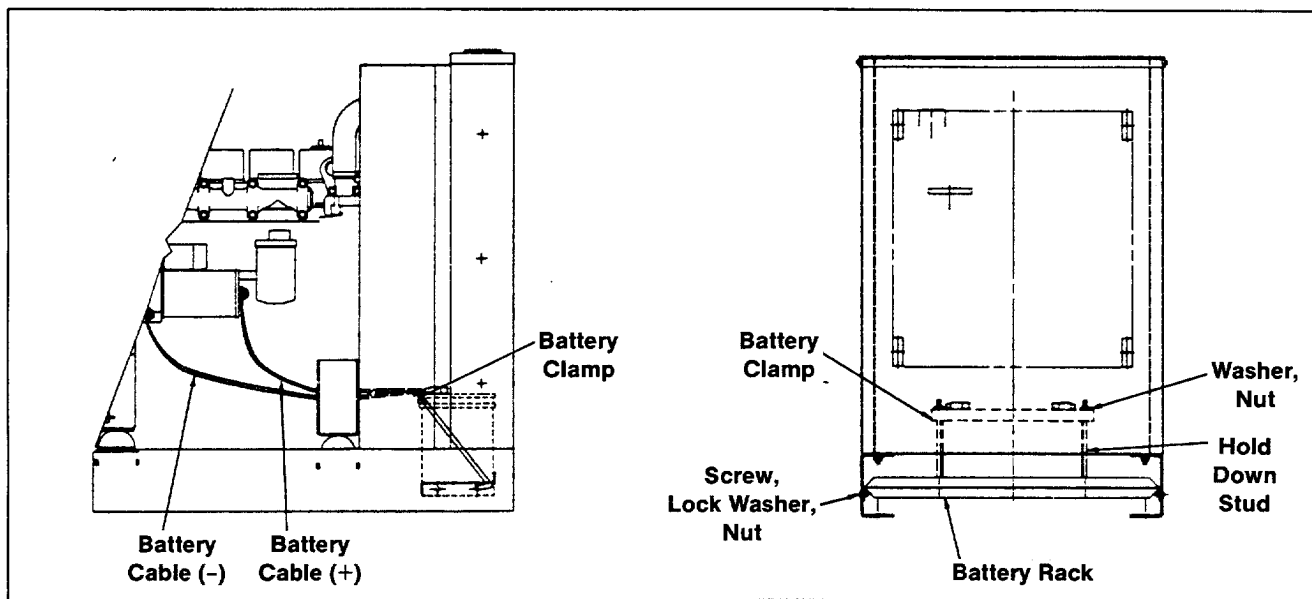

Figure 1. Mounting Battery Rack
3. Locate predrilled holes in skid, see Figure 1. Remove radiator shroud and fan guard, as necessary, to install battery rack and battery.